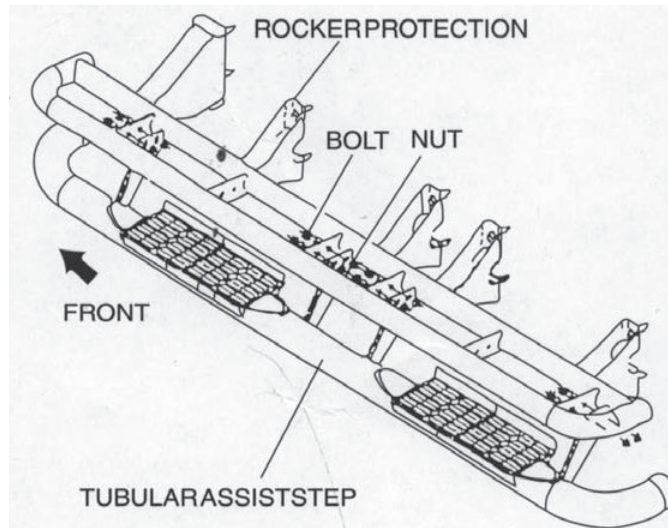

Figure 2
2. Line up the holes of the driver-side side bar brackets to the back of the vehicle rocker panel protection brackets as shown in figure 2. Secure using two M10 hex bolts and two M10 Serrated flange nuts. Snug the hardware, but do not fully tighten.